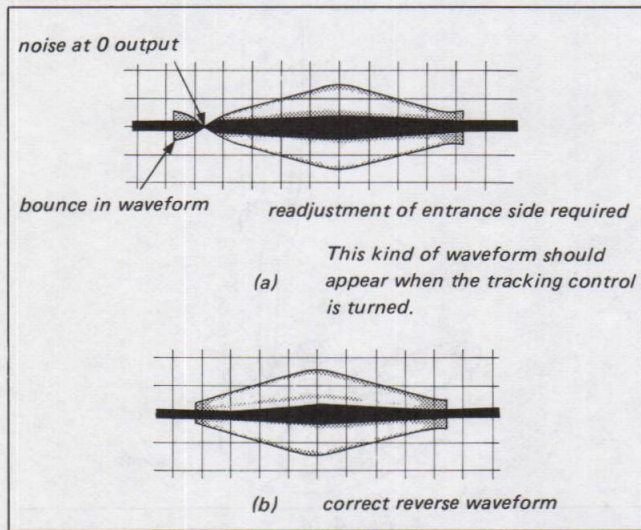

Fig. 4-8.
- 1) Confirm that the entrance and exit side waveforms do not bounce when the tracking control knob is turned (less than 30°) in the reverse mode. (Fig. 4-8)